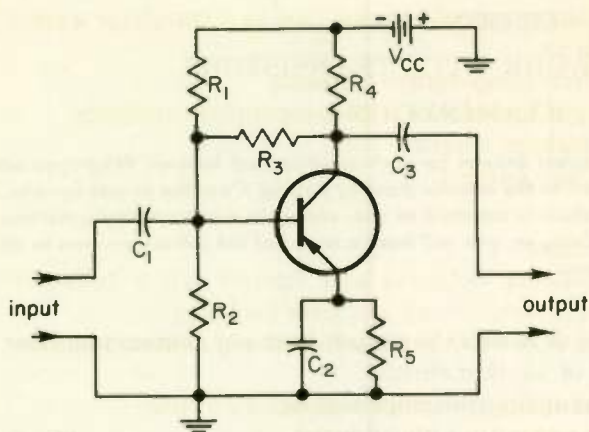

Fig. 31
4. The amplifier stage of Fig. 31 uses
5. If oscillations occur in Fig. 31, it might be because